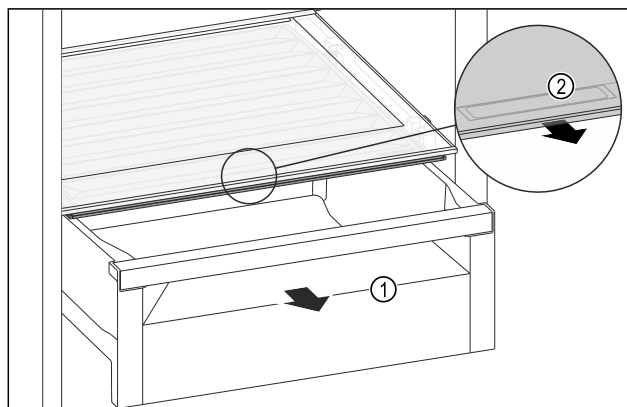

Fig. 105
- Pull out the drawer *Fig. 105 (1)*.
- Grasp the recessed grip *Fig. 105 (2)* on the compartment lid and pull the compartment lid forwards at the same time.